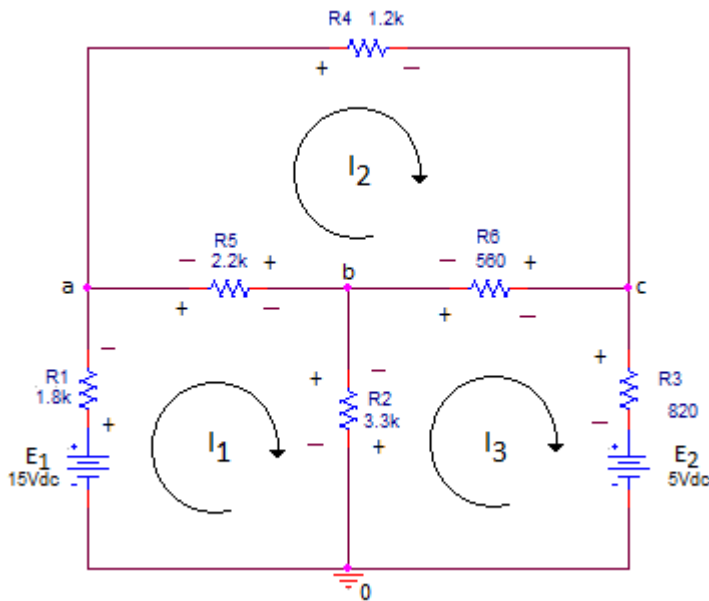
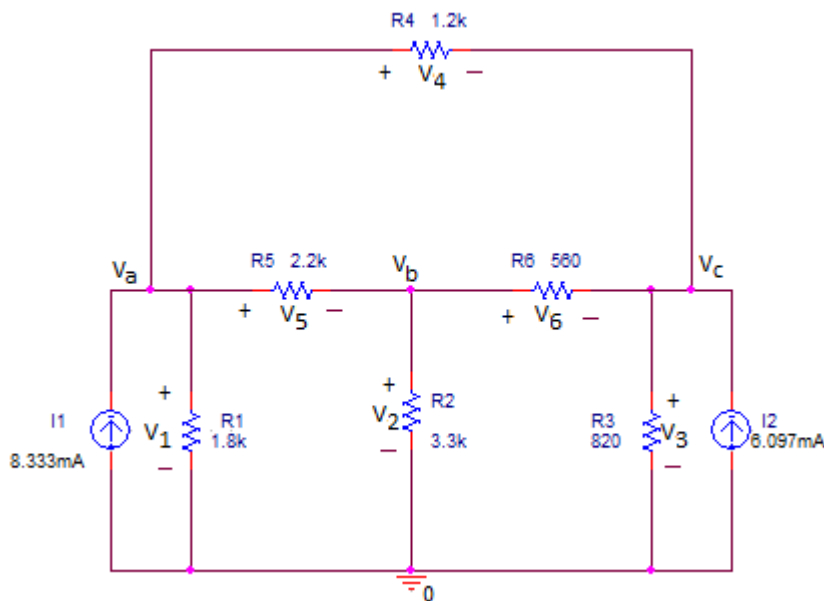

fig. 1
fig. 2
2. In Excel create one data table to hold the calculated and measured voltage and current values called out in the circuit shown in fig.1 (the three loop currents and the three node voltages) and another data table to hold the calculated and simulated voltages called out in fig.2 (the three node voltages and V_1 through V_6). Add a row or column in each table to record the % difference between the measured and calculated (or simulated and calculated) values.
3. Use the **Mesh** Analysis technique to neatly analyze the circuit shown in fig. 1. Note the Mesh currents I_1 , I_2 , and I_3 are shown in the circuit for consistency.
4. Use the **Nodal** Analysis technique to neatly analyze the circuit shown in fig. 2. Note the Nodal voltages V_a , V_b , and V_c are located on the circuit for consistency. Record the calculated node voltages **and** V_1 through V_6 in your second data table from step 3 (don't forget to leave space for your simulated values and % difference). Print this table for use in the lab.
1. Build the circuit shown in fig. 1 using good protoboard techniques.
5. Using Multisim, Capture and simulate the circuit shown in fig. 2.
Note the circuit at left is the same circuit as fig.1 with the (practical) voltage sources changed to (practical) current sources. The voltages across the resistors R_2 , R_4 , R_5 and R_6 should be the same as in the Mesh analysis. Note that the voltages across R_1 and R_3 will not be the same as in the Mesh example because they were changed in the source conversion. When simulating this circuit, you'll "measure" the node voltages V_a , V_b , and V_c and compare with your calculated values.
2. **After Lab:** Using your laboratory measurements and standard circuit analysis techniques, verify that the loop current I_1 that you measured in fig. 1 is correct (Hint: think KVL).
- 2) The schematic and your completed data table for fig. 1 on one page, showing calculated and measured values as well as % error calculations, one per team.
- 3) The schematic and completed data table for fig. 2, on one page, showing calculated and simulated values as well as % error calculations, one per team.
fig. 1 and fig. 2. Notice that the voltages at points a, b, and c, relative to ground, in each circuit are the same. That's because the voltage sources E1 and E2 were converted to equivalent current sources. Even though the circuits are configured differently, the *response* to the two *equivalent* circuit segments is identical.